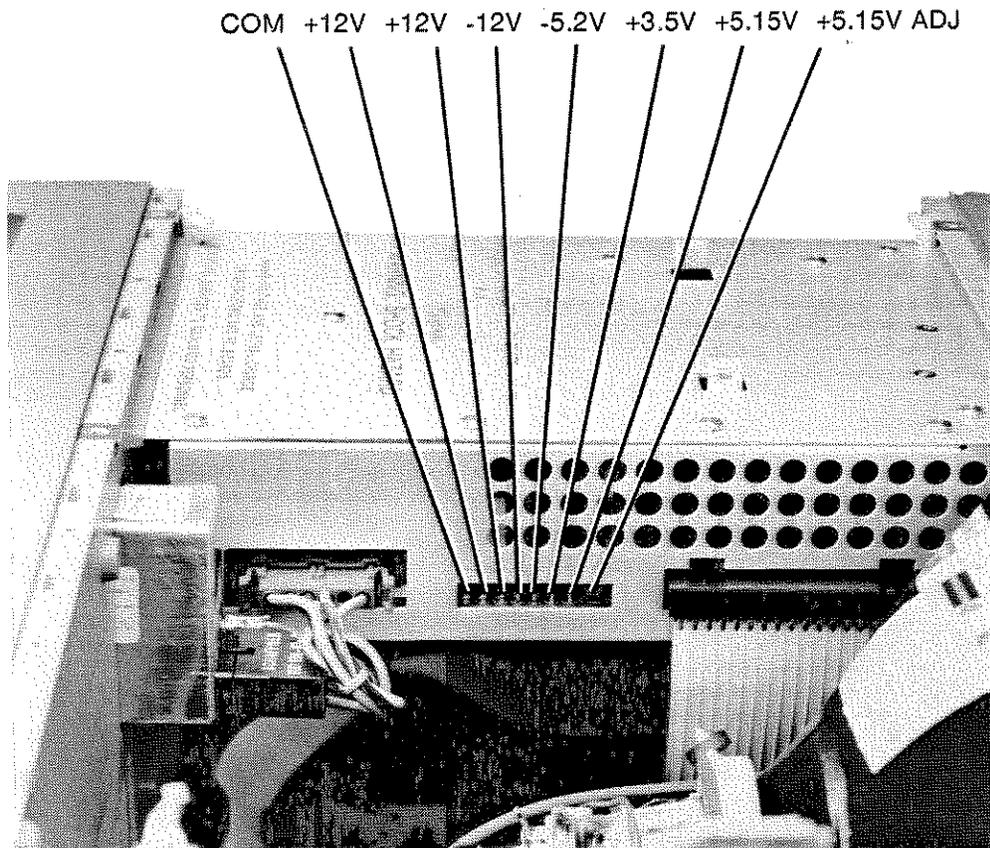

Figure 6-10. HP 54501A Power Supply Test Points
2. Refer to figure 6-10 for locations of power supply test points.
3. Check voltages on power supply test points for voltages in figure 6-10.
- b. Disconnect cable W1 from power supply as in figure 6-10.